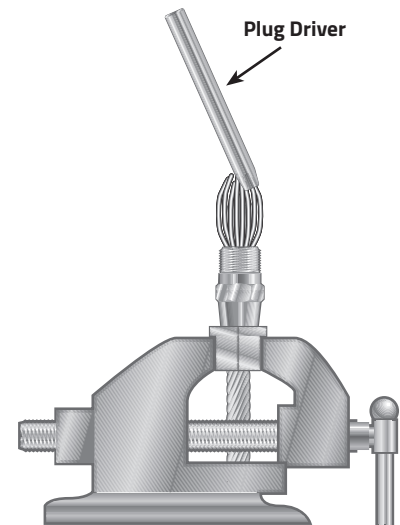

Figure 4
**STEP 5: Form the rope around the plug.** (Figure 4) Re-clamp the assembly in the vise on the flat sides of the sleeve. Using the hole in the plug driver, bend the outer strands toward the center so the socket can be easily applied over all the strands. On larger ropes, a hose clamp may be helpful.